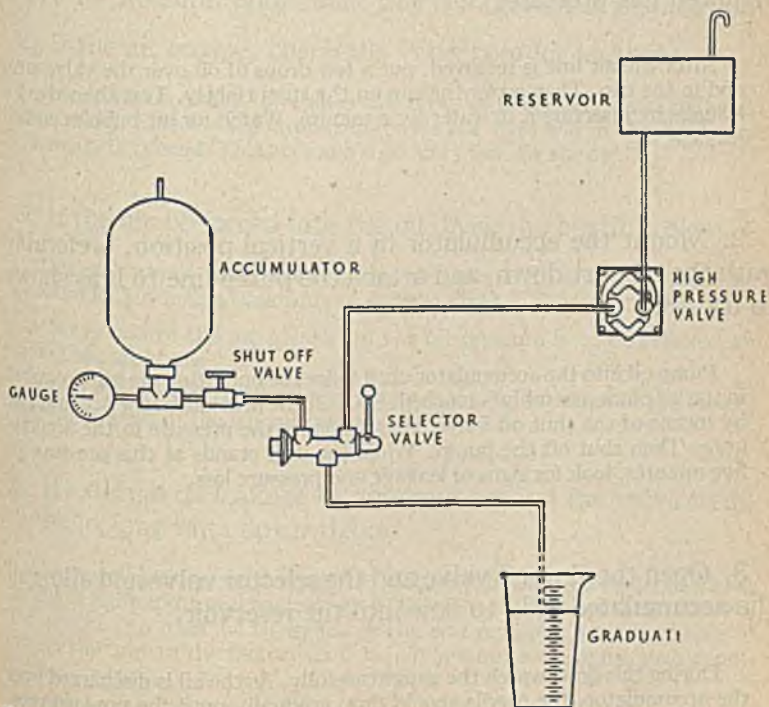

Fig. 78.—Set up for testing accumulator.
**Test Procedure.**—1. Attach the air line to the accumulator valve stem as shown in fig. 78 and pre-load the unit to the required gas pressure.
2. Mount the accumulator in a vertical position, preferably with the oil port down, and attach the pump line to it as shown in fig. 78.